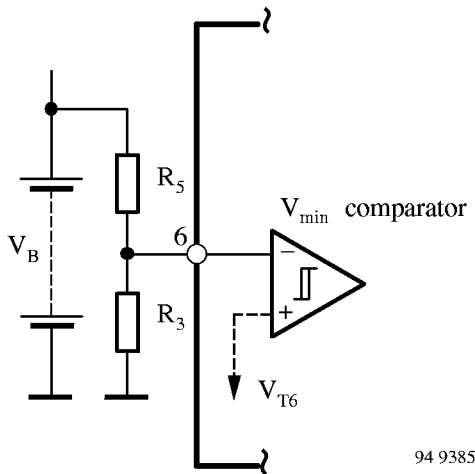

Figure 12. Comparator threshold dimensioning circuit
**Discharge Stop Comparator** figure 12